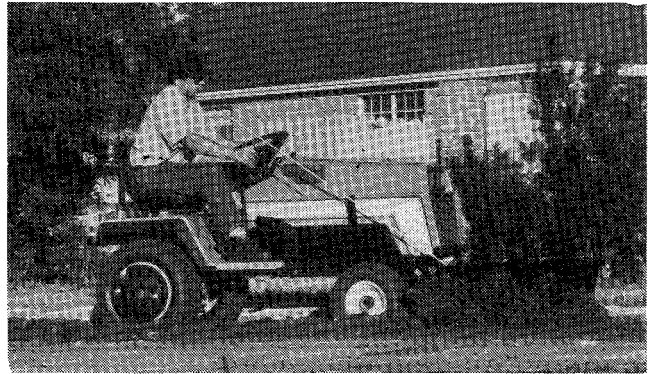

Figure 11
to the extension (C) with cotter pin (B). Spread both legs of cotter pin fully. Connect the eyebolt (F) to support with the nut (G). The control rod is shown in figure 11. (Figure 11 shows early model with one-piece control rod.)